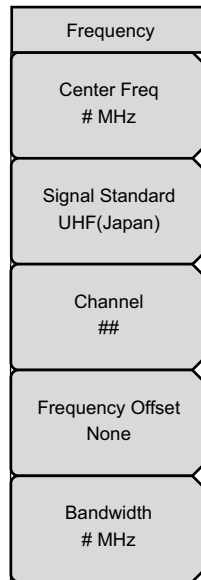

Figure 2-16. Frequency Menu
1. Press the **Frequency** main menu key to display the Frequency Menu (Figure 2-16).